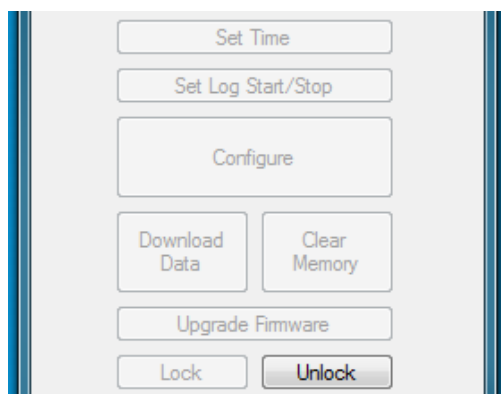

Figure 2.11.3
Step 3: Click on the 'Ok' button. The 'Status' window as shown in figure 2.11.3 is now protected.